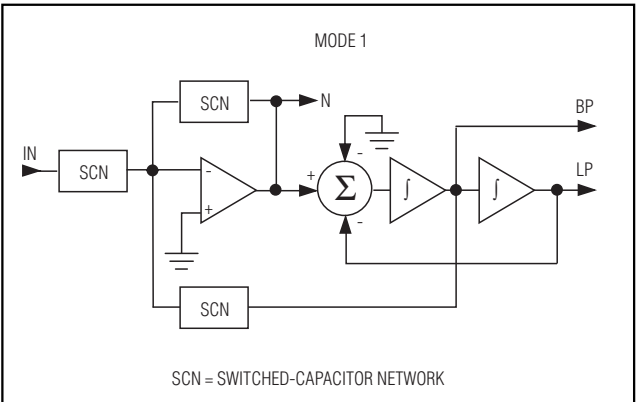

Figure 7. Filter Mode 1: Second-Order Bandpass, Lowpass, and Notch
Figures 7 through 11 show symbolic representations of the MAX260 filter modes. Only one second-order section is shown in each case. The A and B sections of one MAX260/MAX261/MAX262 can be programmed for
**MODE 1** (Figure 7) is useful when implementing allpole lowpass and bandpass filters such as Butterworth, Chebyshev, Basset, etc. It can also be used for notch filters, but only second-order notches because the relative pole and zero locations are fixed. Higher order notch filters require more latitude in  $f_0$  and  $1_N$ , which is why they are more easily implemented with mode 3A.